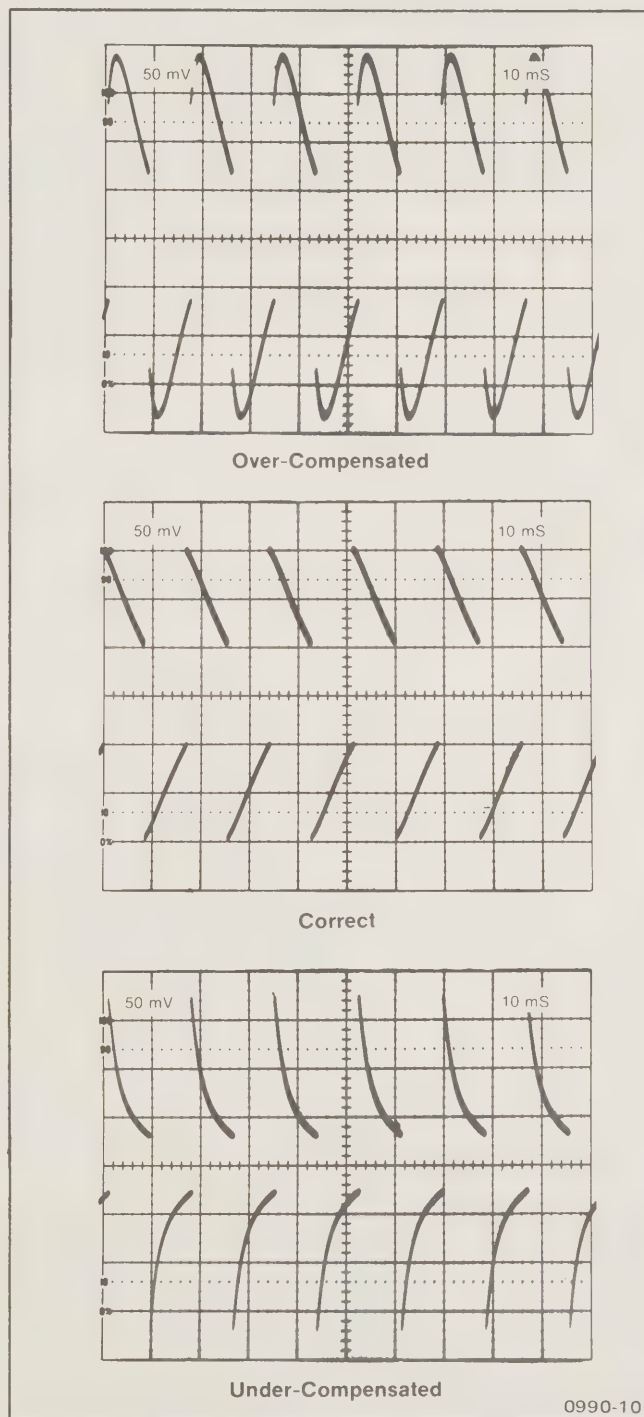

Fig. 5-2. Adjustment of LF COMP.
h. ADJUST—LF COMP (R154) for a straight slope on the square wave top. (See Fig. 5-1.) Fig. 5-2 illustrates correct and incorrect adjustments of LF Comp.